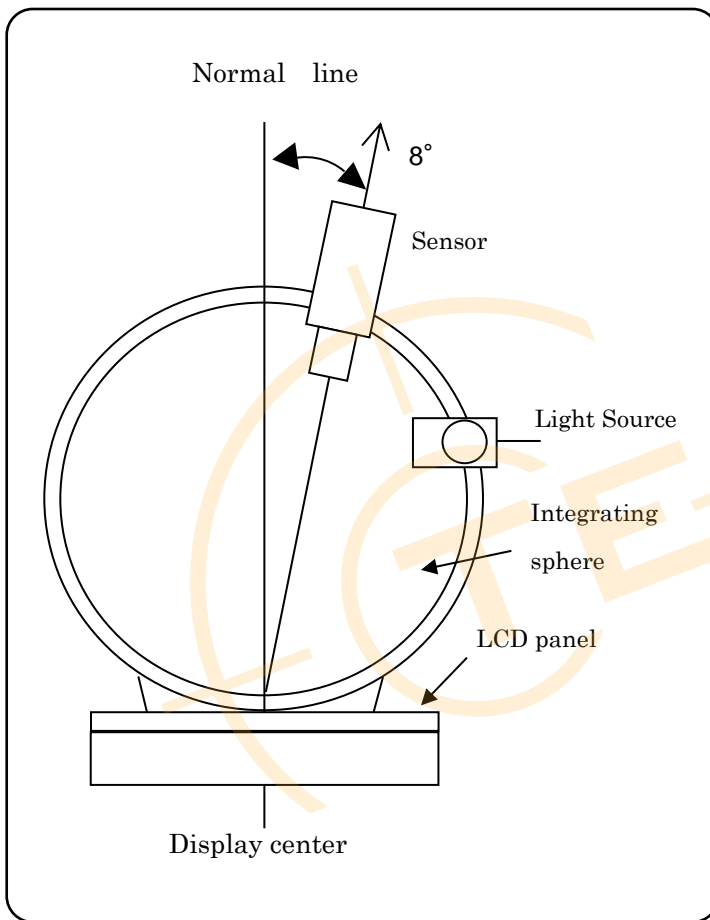
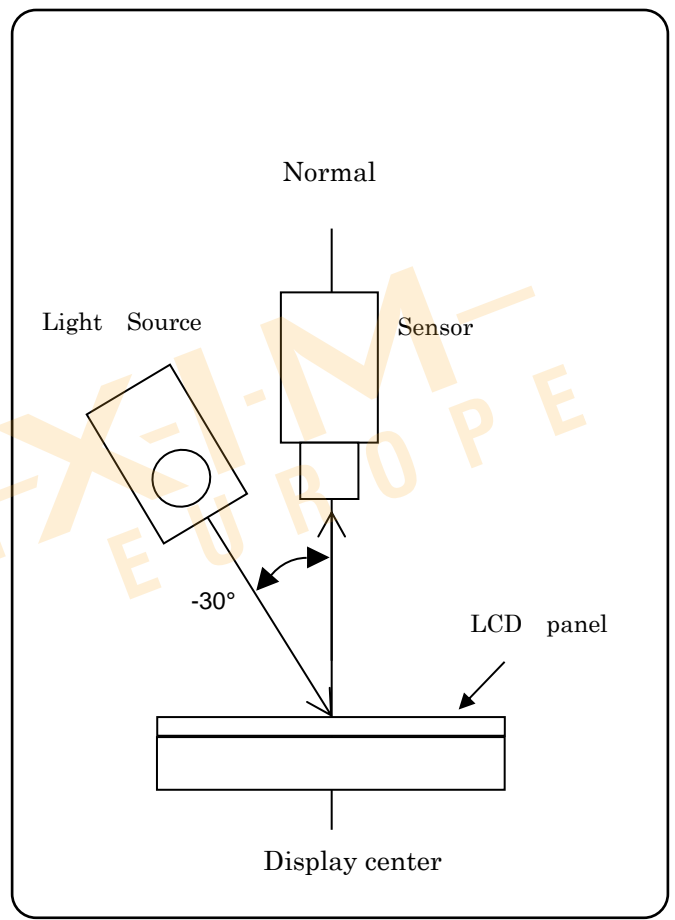

Figure 7-2 Contrast ratio, Reflection ratio,
Figure 7-3 Response time
- ・コントラスト比、反射率、パネル表面色度の測定は図7-2,応答速度の測定は図7-3の測定方法を用いて、
- ・Figure 7-2 is for contrast ratio, reflectivity ratio, and panel chromaticity measurement, and Figure 7-3 is for response time measurement. Both are to be conducted in a dark or room equipment to a dark room